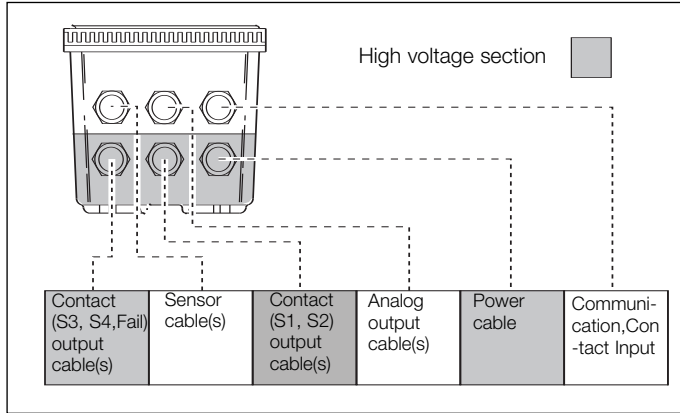

Figure 3-7. Glands for cabling
5. Connect the power supply and contact outputs (refer to §3-3-2 and §3-3-4). Use the three glands at the back to guide the cables out, (refer to figs. 3-7 and 3-9).
7. Connect the analog output, the sensor input and if necessary the RS485 serial bus. Refer to §3-3-4 and §3-3-5. Use the front two glands, (refer to figs. 3-7 and 3-9).
3-3-2-2a. Grounding the housing, refer to fig. 3-7
The 4 contact outputs can be wired to your own requirements, refer to Fig. 3-7.